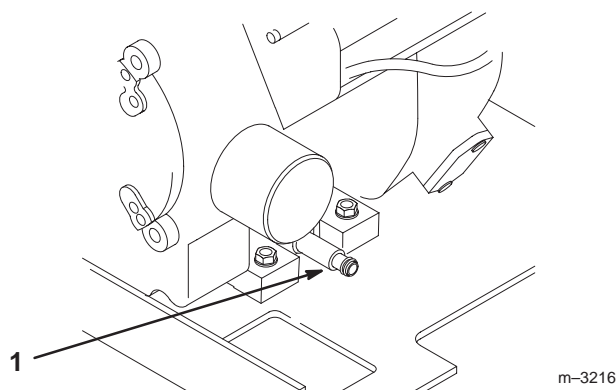

Figure 20
- Open the drain valve by turning it counterclockwise, pulling out as you turn it (Fig. 20).